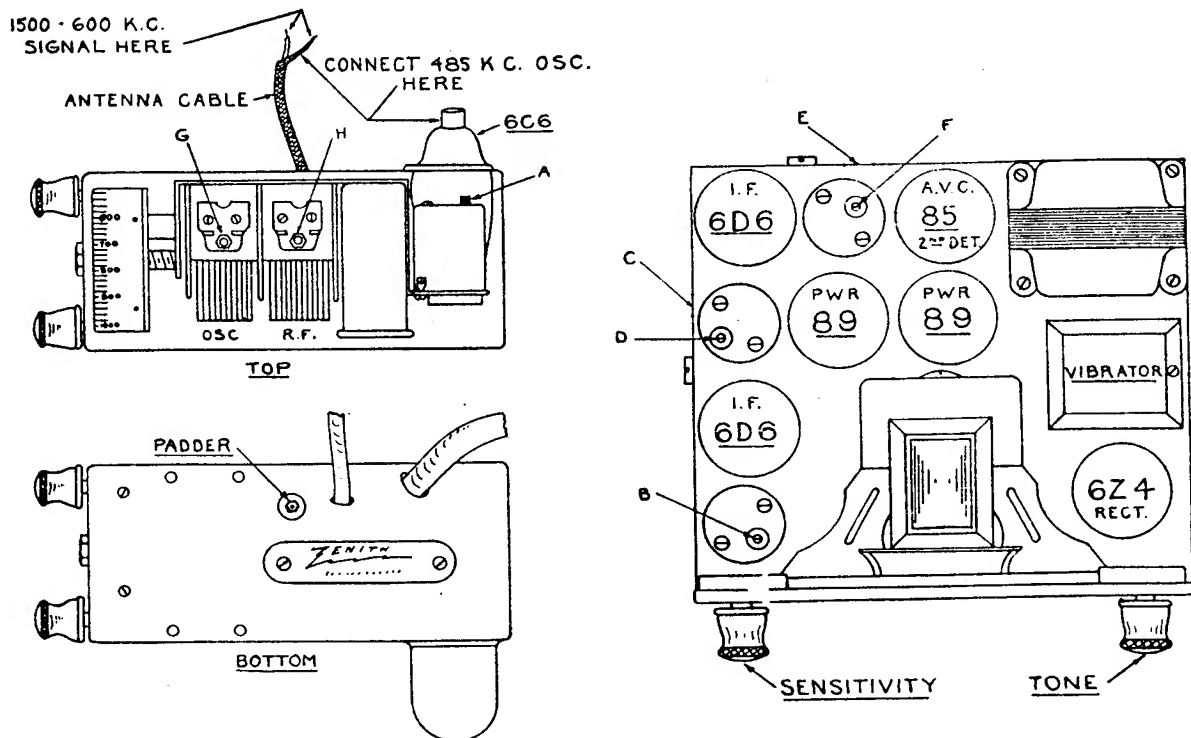

Fig. 1
The table on page 4 specifies the socket voltage and figure 1, page 5, the relative tube position.
To balance the I.F. circuit remove the cap and lead from the grid of the 6C6 tube in the control head and attach the test oscillator to the grid and to ground. Set to 485 K.C. and first adjust the primary I.F. trimmer shown (A) in Figure 1. Next trim the secondary (B). Now turn the plate trimmer (C) on the side of the chassis base to resonance, with a No. 4 Spintite wrench. Its (2nd I.F.) transformer is directly above the adjustment. Set the screw (D) in the top of the transformer shield to resonance also. The third I.F. transformer is adjusted through a hole in the rear of the chassis and also on top of the transformer indicated at E and F. This completes the I.F. circuit. Replace the grid lead on the 6C6 and screw the metal cap back in position.